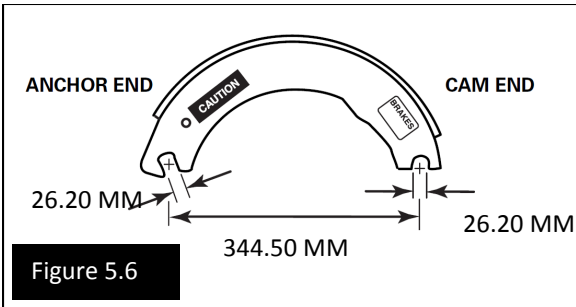

Figure 5.6
12. Replace the shoes if any one of the readings exceed the specified limits figure 5.6